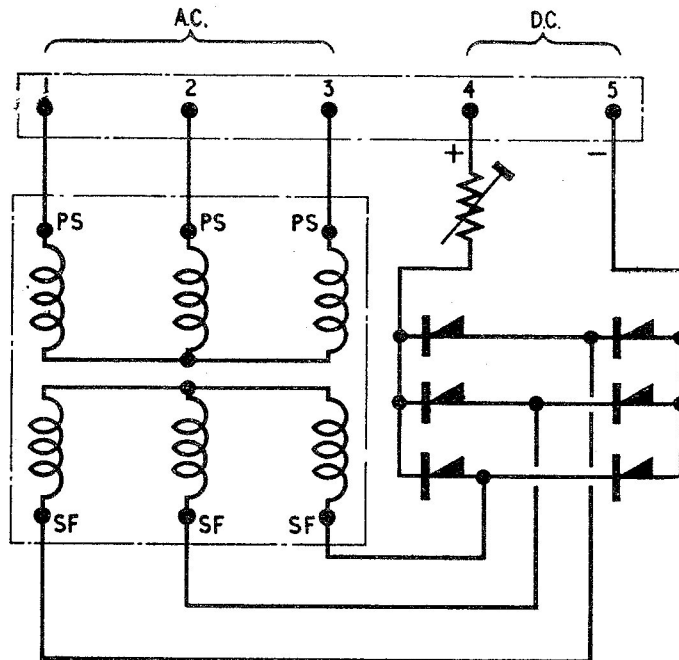

Fig. 3. Diagram of connections
6. A diagram of connections is shown in fig. 3. Terminals No. 1, 2, and 3 are for the 3-phase input, whilst terminals No. 4 and 5 are for the d.c. output. No. 4 being the positive terminal. The 3-phase input is first stepped down in the transformer, and then rectified to give the required d.c. output. The tapping on the resistor is pre-set so that, with a resistive load of 2.1 amp. the output voltage is 28 volts when the input line voltage is 208 volts.